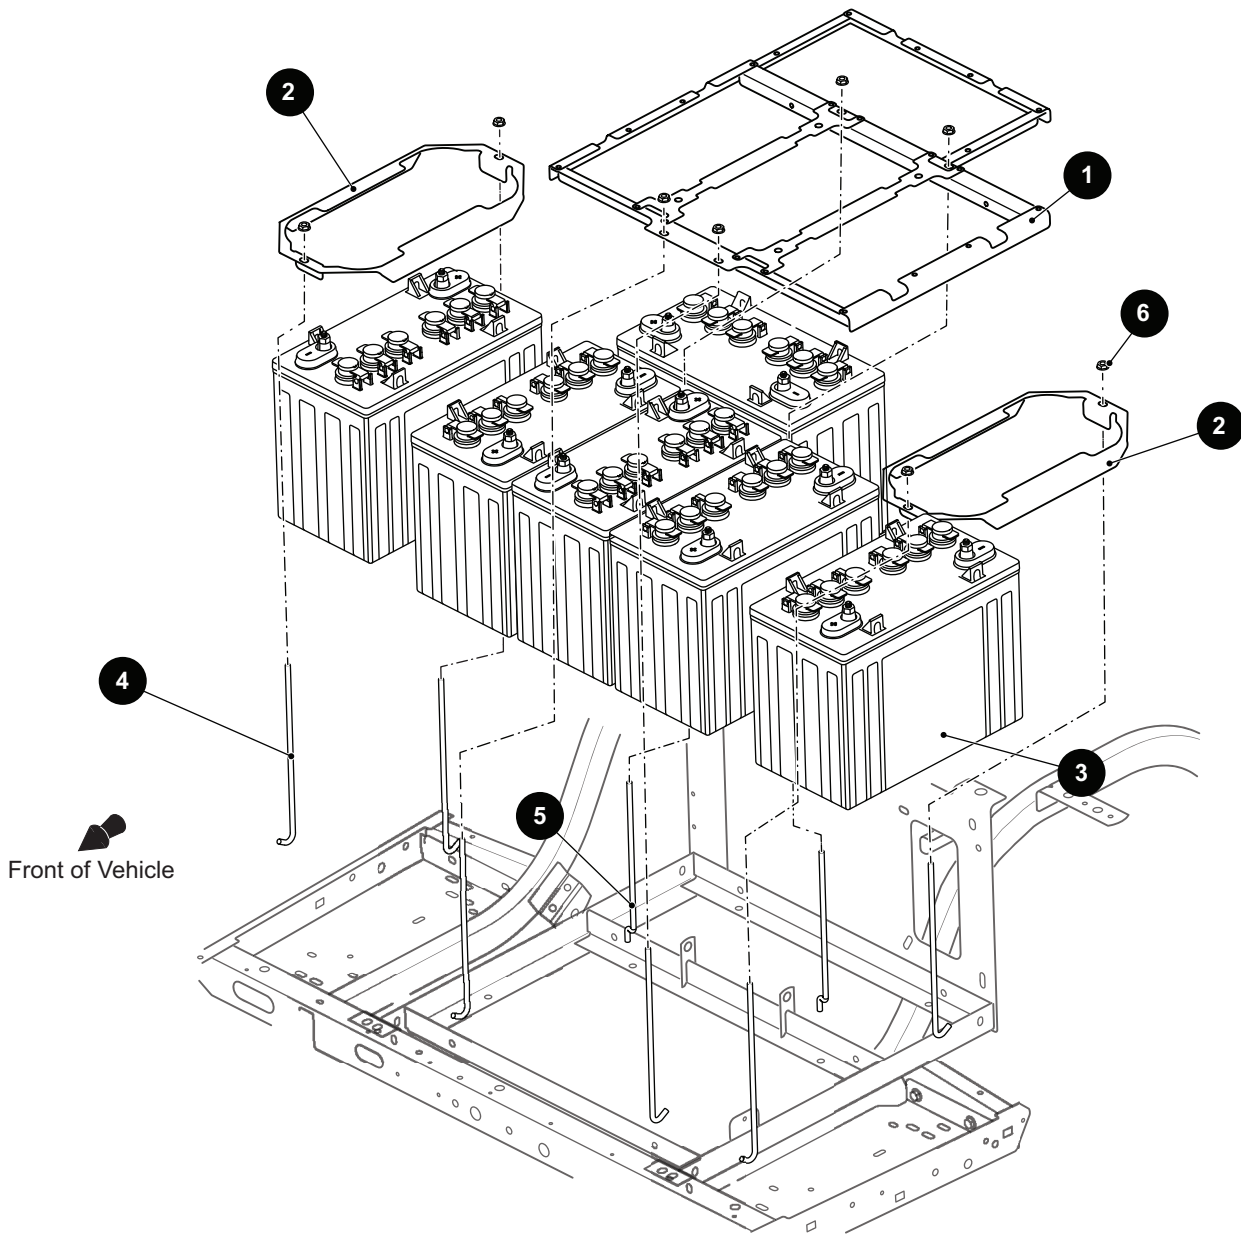

Fig. 1 Battery System
1. Remove the negative (-) cable (11).
2. Remove the positive (+) cable (8).
3. Remove the nuts (6) and hold down bolts (4) from the battery hold downs (2) and battery bracket (1).
4. Remove the batteries (3) using a battery carrier (Ref Fig. 1).